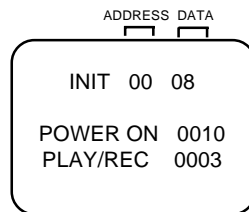

Fig. 1
2. Press both VOL. DOWN button on the set and Channel button **(6)** on the remote control for more than 2 seconds. ADDRESS and DATA should appear as FIG 1.